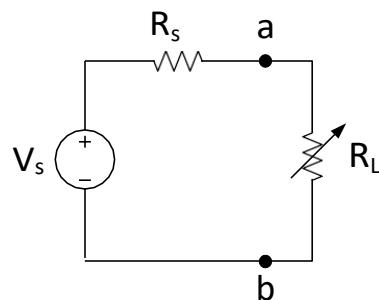

Figure 3.3 Model emulation of a thermoelectric power supply with internal resistance R_s and external resistive load R_L .
- B. The circuit to the left of the terminals a-b in Figure 3.3 models a thermoelectric power supply with internal resistance R_s . R_L represents a load with variable resistance.
- d. (**LTspice**) Construct the circuit in Figure 3.3. Set the value of V_s and R_s with the values you calculated in part (a). Define load resistance as a parameter RL using curly brackets $\{RL\}$ as you did in the last lab. Run a DC (DC op pt) simulation with parameter sweep spice directive ‘.step param....’ to obtain a plot of R_L power dissipation vs. R_L resistance value. You may sweep from 25Ω to 175Ω with 5Ω step size. Include snapshots of the schematic and simulation results to your prelab report. How does your result compare to the calculation in (b) above?
Build the circuit of Figure 3.3 using the calculated power supply parameters in prelab 2.B(a). DC supply is emulating the thermoelectric generator, and R_s resistor is emulating the internal resistance of the thermoelectric device in this experiment. **Make sure you use the same compliance limits as before for the DC power supply.**